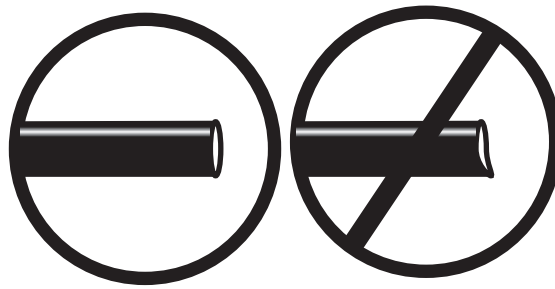

fig. 11
- a. Check the air line connection by deflating the spring and removing the line by pulling the collar against the fitting and pulling firmly on the air line. Trim 1" off the end of the air line. Be sure the cut is clean and square (see fig. 11). Reinsert the air line into the push-to-connect fitting.